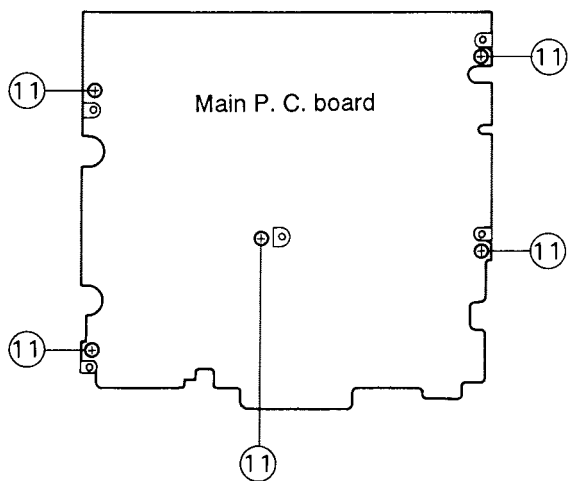

Fig. 4-12
5. After setting the main P.C. board right upward, remove the five screws (11) retaining the main P.C. board (See Fig. 4-12).